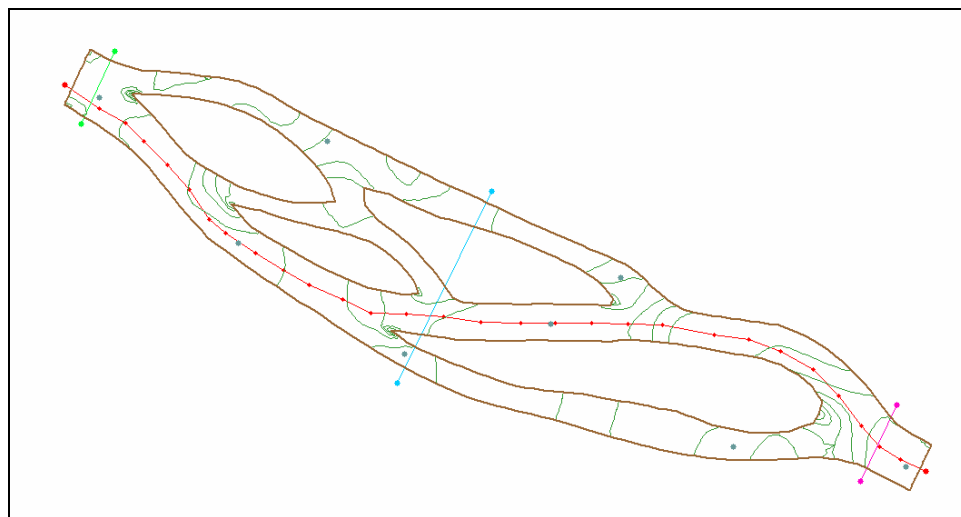

Figure 8 *Profile and cross-section arcs*
3. Create an arc down the main channel, as shown in Figure 8. Remember to double-click the last point to end the arc.
2. Create each of the cross section arcs, as shown in Figure 8. Note: When creating these, DO NOT click ON the profile arc, as this would split it.